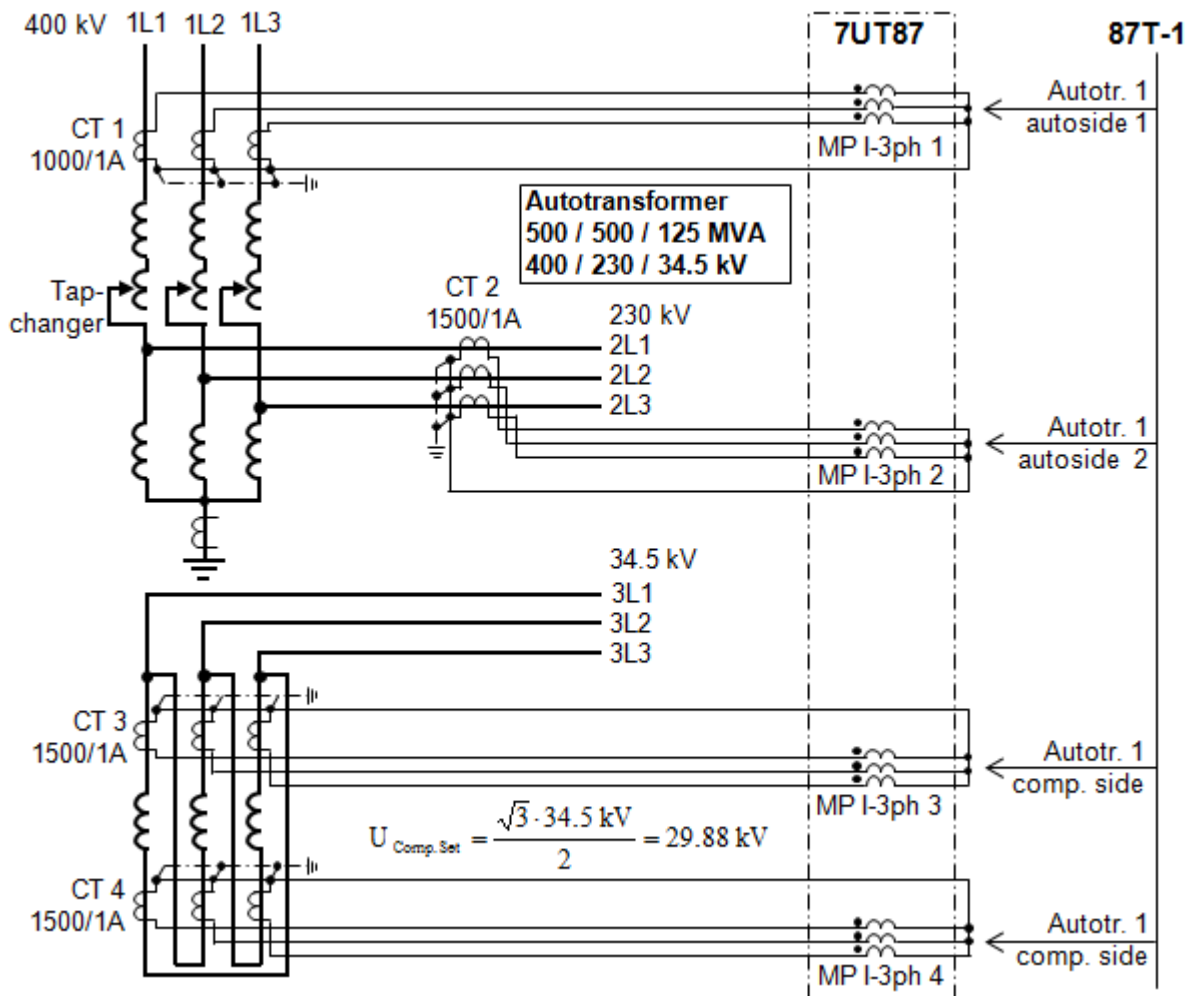

Figure 1: Differential protection for the auto transformer (87T-1)
- Differential protection for the auto transformer 87-T1 (Figure 1)